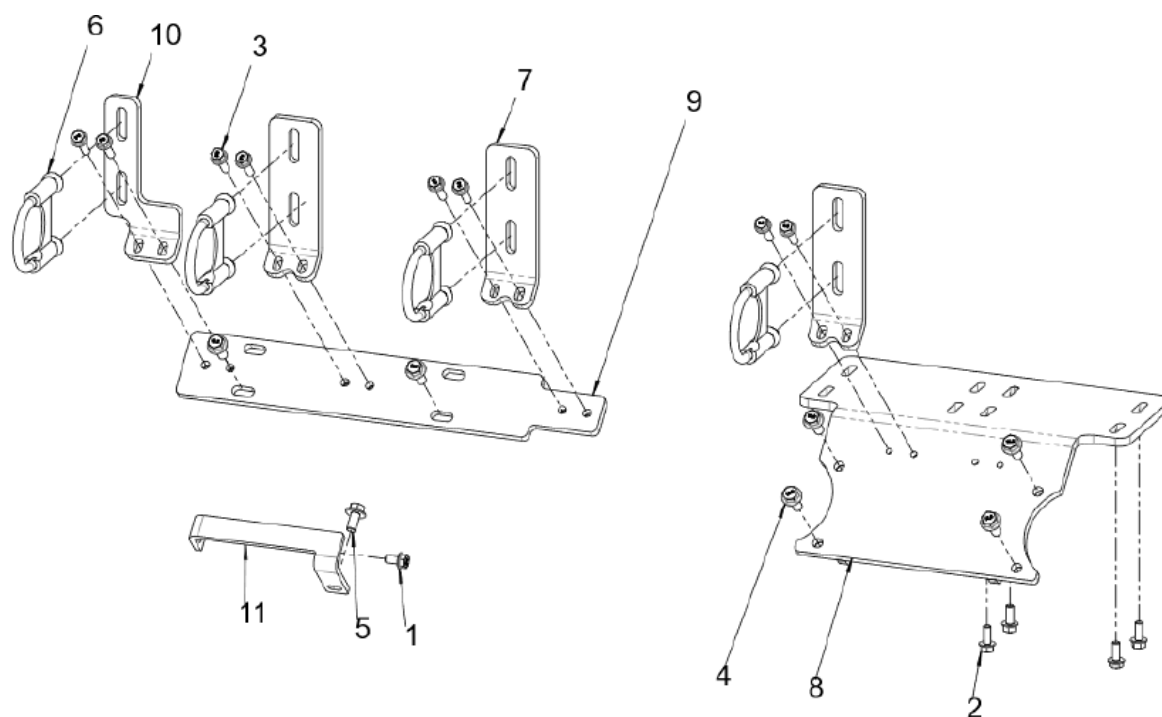
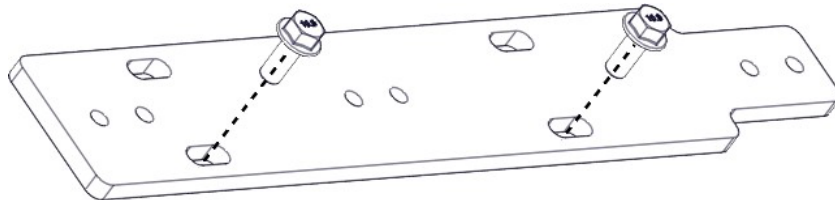

Figure 44. Right Fuel Mounting Bracket Assembly
Figure 49.
1. Remove all U-clamps (Figure 44, item 6) and bolts (If not already removed).
2. Remove the two bolts (Figure 44, item 3) from all supporting brackets on the lock-off plate (Figure 44, item 9).
6. Remove the thermostat housing bracket and the lock-off plate bracket (Figure 44, items 9 and 11).
7. Remove the U-clamp from the MFG bracket (Figure 44, item 8).
9. Remove the MFG supporting bracket (Figure 44, item 7).
10. Remove the four bolts (Figure 44, item 4) from the MFG bracket (Figure 44, item 8).
11. Remove the MFG bracket (Figure 44, item 8).
1. Place the MFG bracket (Figure 44, item 8) on top of the exhaust manifold and insert and torque down the four MFG bracket bolts (Figure 44, item 4) to 60 ft/lbs.
2. Place the MFG support bracket (Figure 44, item 7) onto the MFG bracket (Figure 44, item 8) and insert and torque down the two MFG support bracket bolts to 22 ft/lbs.
4. Place the lock-off plate (Figure 44, item 9) onto the exhaust manifold and insert and torque down the two lock-off plate bolts (Figure 49) to 60 ft/lbs.
5. Place the MFG supporting brackets and the lock-off support bracket (Figure 44, items 7 and 10) onto the lock-off bracket (Figure 44, item 9).